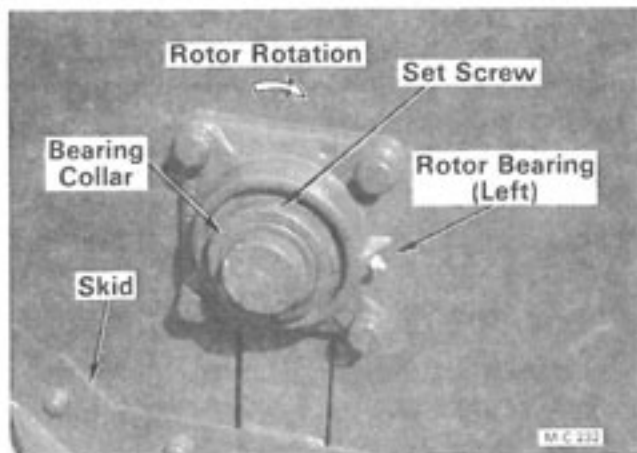

Figure 37
2. Clean the end of the rotor shaft with emery cloth. Remove the bearing collar set screw and four capscrews securing the bearing to the Shredder body, see Figure 37, and slide the bearing off of the rotor shaft.